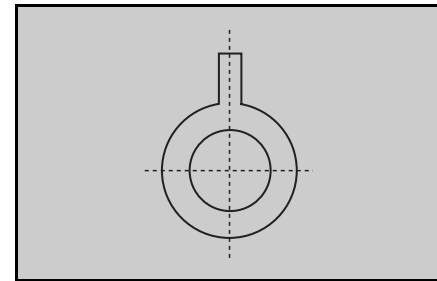

Figure 28. **Alignment magnet (or dummy ring)**
5. Position the long tab of all alignment magnets and of the dummy ring together in an uncorrected position. (See Figure 28).